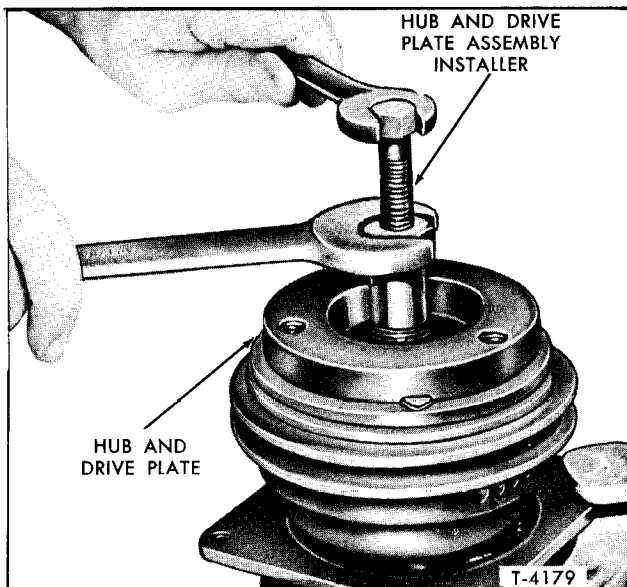

Figure 38-Installing Hub and Drive Plate Assembly
3. Using tool (J-9480-01, figure 38), install the hub and drive plate assembly. Pull the assembly onto the shaft until there is approximately  $3/32$ " space between the frictional surfaces of the drive plate and pulley. (A ZERO thrust race is approximately  $3/32$ " thickness and may be used to roughly gauge this operation.)